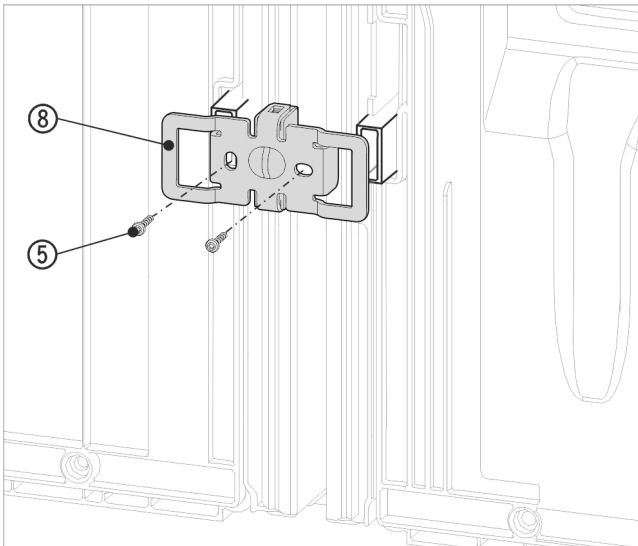

Fig. 19 Example illustration
- Slide the bracket Fig. 19 (8) on once more with the slots over the retainer for the wall spacers.
- Screw in tightly with the 2 screws Fig. 19 (5).